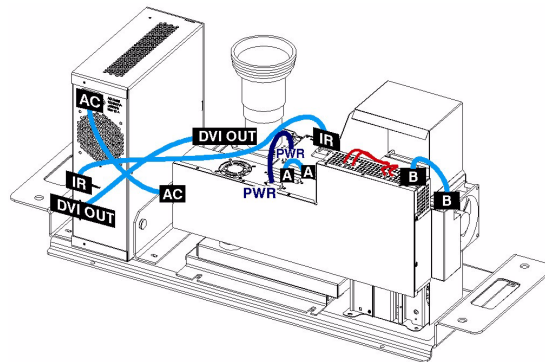

FIGURE 2-2 CONNECTING PROJECTOR CABLES
2. Check all cable connections between modules of the projector. If required, refer to Figure 2-2 below and reconnect or tighten loose cables.